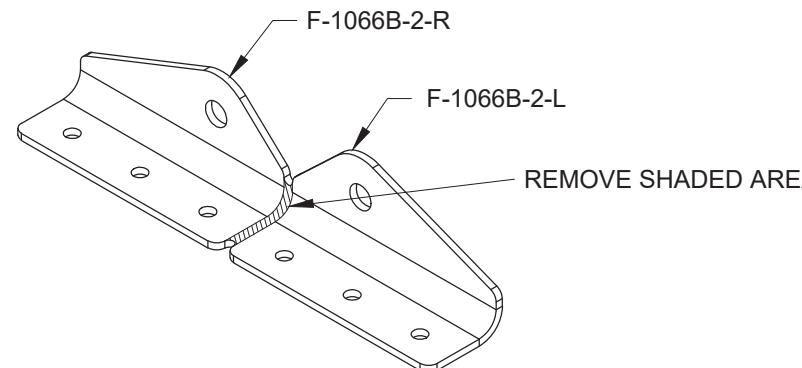

FIGURE 2: SEPARATE FLAP MOTOR ATTACH ANGLES
Step 2: Separate the F-1066B-2 Angle into the F-1066B-2-L and F-1066B-2-R as shown in Figure 2.